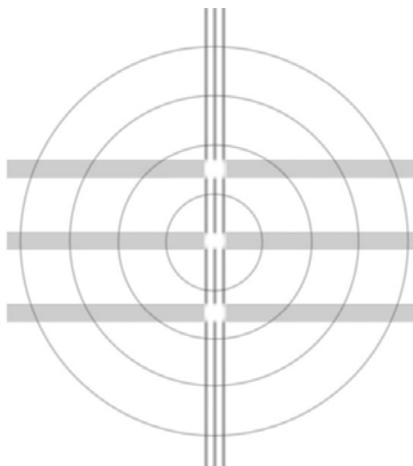

Figure 5
1. If both sets of target lines focus at the same time (Figure 5), the lens is a sphere. Record the lens power to the nearest 0.12 D (regardless of the increment size on the lensometer scale), and you are done.
1. The optical center is the point on a lens with no prism. Find it by moving the lens around until the target is centered on the reticle. See Figures 5,6,7, and 9 for examples.